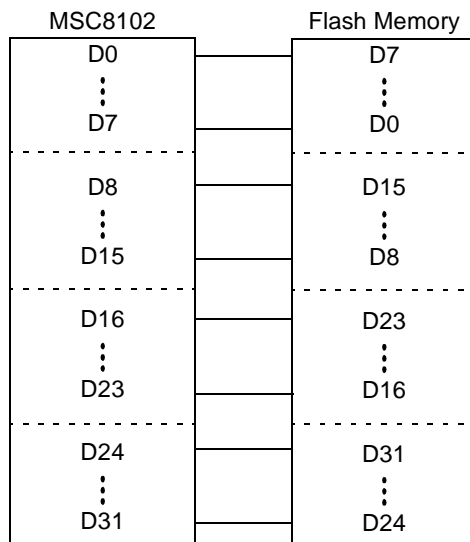

Figure 4. MSC8102 to Flash Memory Byte Lane Reversal
- *Flash Memory Devices.* The data lines of most Flash memory devices are connected to the MSC8102 with byte lanes bit-reversed for programming algorithm purposes. A 32-bit example is shown in **Figure 4**. The figure is correct for a Flash SIMM composed of 8-bit Flash devices. Adjust the byte lanes as necessary for the memory used in your design. In addition, the Flash memory interface requires a reset input. The reset input should connect to the MSC8102 $\overline{\text{PORESET}}$.